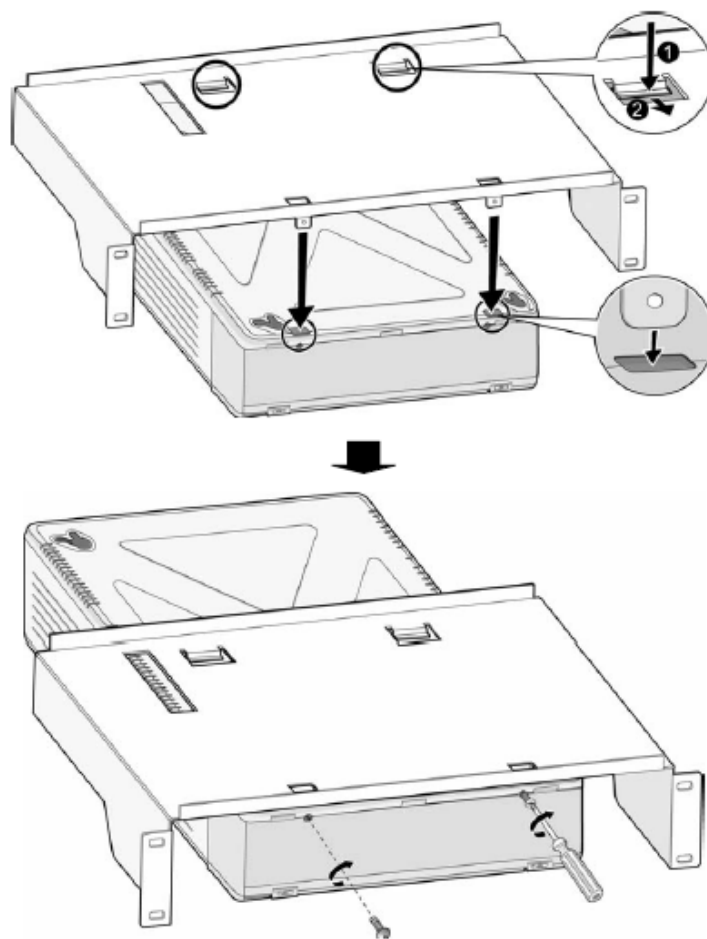

Figure 3-13 EKSU Rack Bracket
2. Attach the rack bracket to the bottom of the SBX IP 320 system as shown in Figure 3-13, and securely attach it to the system by tightening the screws clockwise.